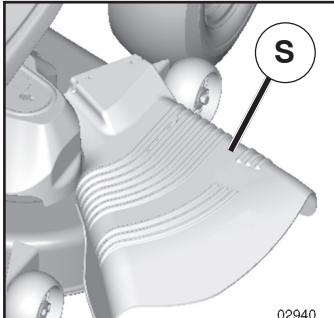

Fig. 10
**CAUTION:** Do not operate the mower without either the entire grass catcher, on mowers so equipped, or the deflector chute (S) in place (See Fig. 10).